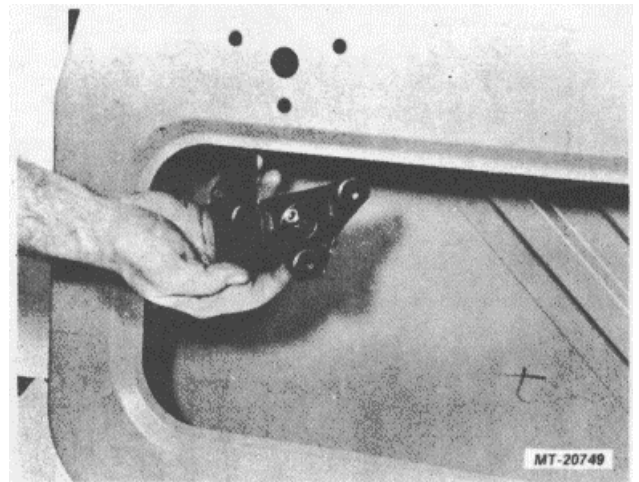

Fig. 21. Removing Remote Control Assembly
4. Remove three socket head screws and detach remote control from inside of door (Fig. 21).